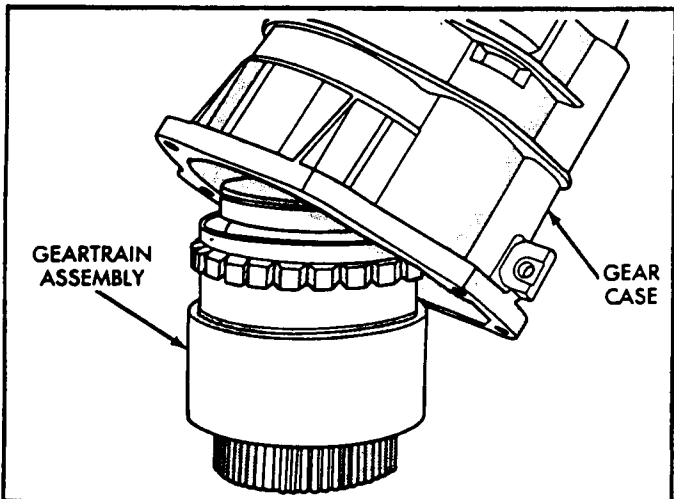

Figure 8
10. Lift the overdrive case up and off of the geartrain assembly (See Figure 8).